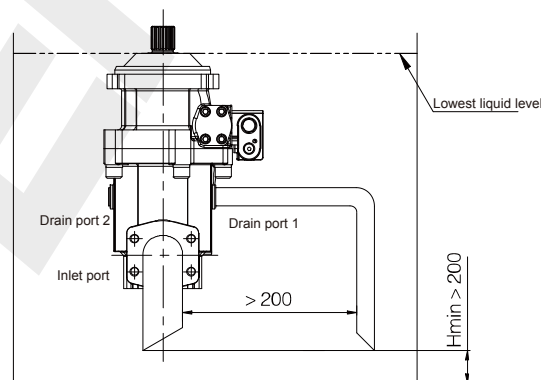

Fig. 1
- When the minimum fluid level is equal or above the pump mounting flange area, blocked Drain Port 2, open Drain Port 1, suggest piping according Fig. 1.